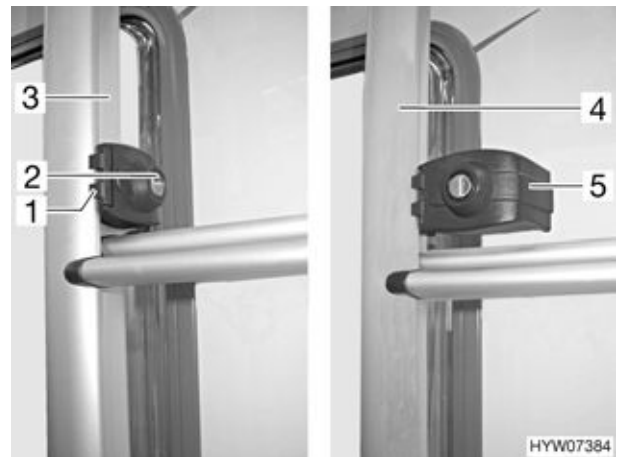

Fig. 1 Rear ladder lock
- Insert the key into the locking cylinder (Fig. 1,2) of the rear ladder lock (Fig. 1,1) and turn it a quarter turn until the key is in a vertical position.
- Hold the foldable part of the rear ladder (Fig. 1,4) and swing out the securing bracket (Fig. 1,5).
- Insert the key into the locking cylinder (Fig. 1,2) of the rear ladder lock (Fig. 1,1).
- Swivel the securing bracket (Fig. 1,5) inward around the tube of the fixed part of the rear ladder (Fig. 1,3).